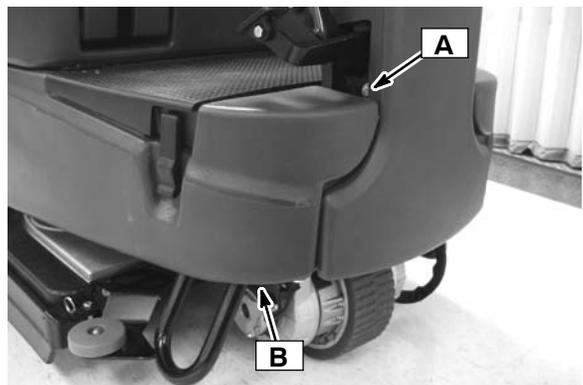

Fig. 8
12. Route the wire inside the steering column shroud from (A) to (B) (Figure 8).